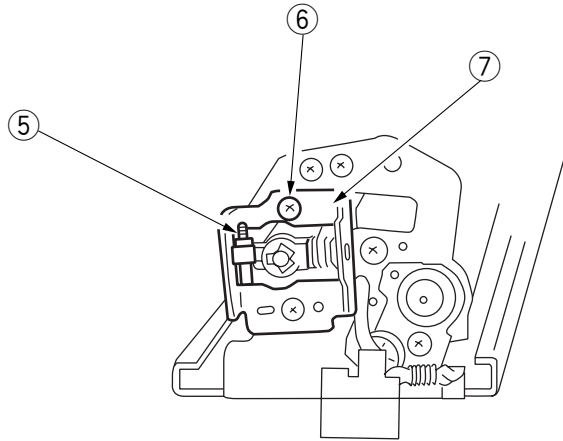

Figure 6-207
- 5) Release the pressure by positioning the screw ⑤ as shown in Figure 6-207.
- 6) Remove the screw ⑥, and detach the bushing ⑦.